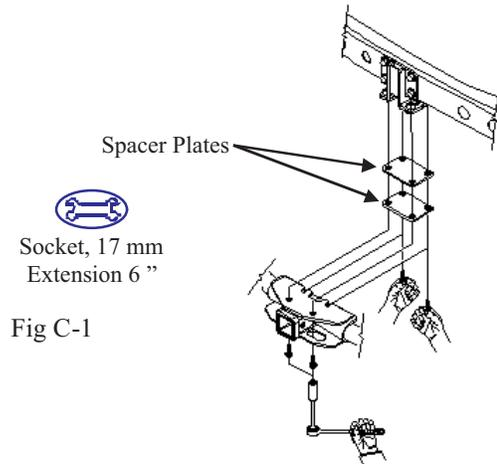

Fig C-1
- ➔ ii. Reinstall the one (1) M6 bolt. Tighten to 71 +/- 18 lbf-in (8 +/- 2 N-m).
- ➔ 1. Hand start two (2) M12-1.25x45 black bolts through two (2) spacer plates into forward most set of holes. (Fig. C-1)
2. Slide hitch onto pre-installed bolts using open ended slots to support the hitch. (Fig. C-1)
- ➔ 3. Hand start two (2) M12-1.25x45 black bolts to rear most position to secure the hitch and spacer plates using a socket extension and a 17mm socket. Bolts can be fed through chain holes. Do not tighten. (Fig. C-1)